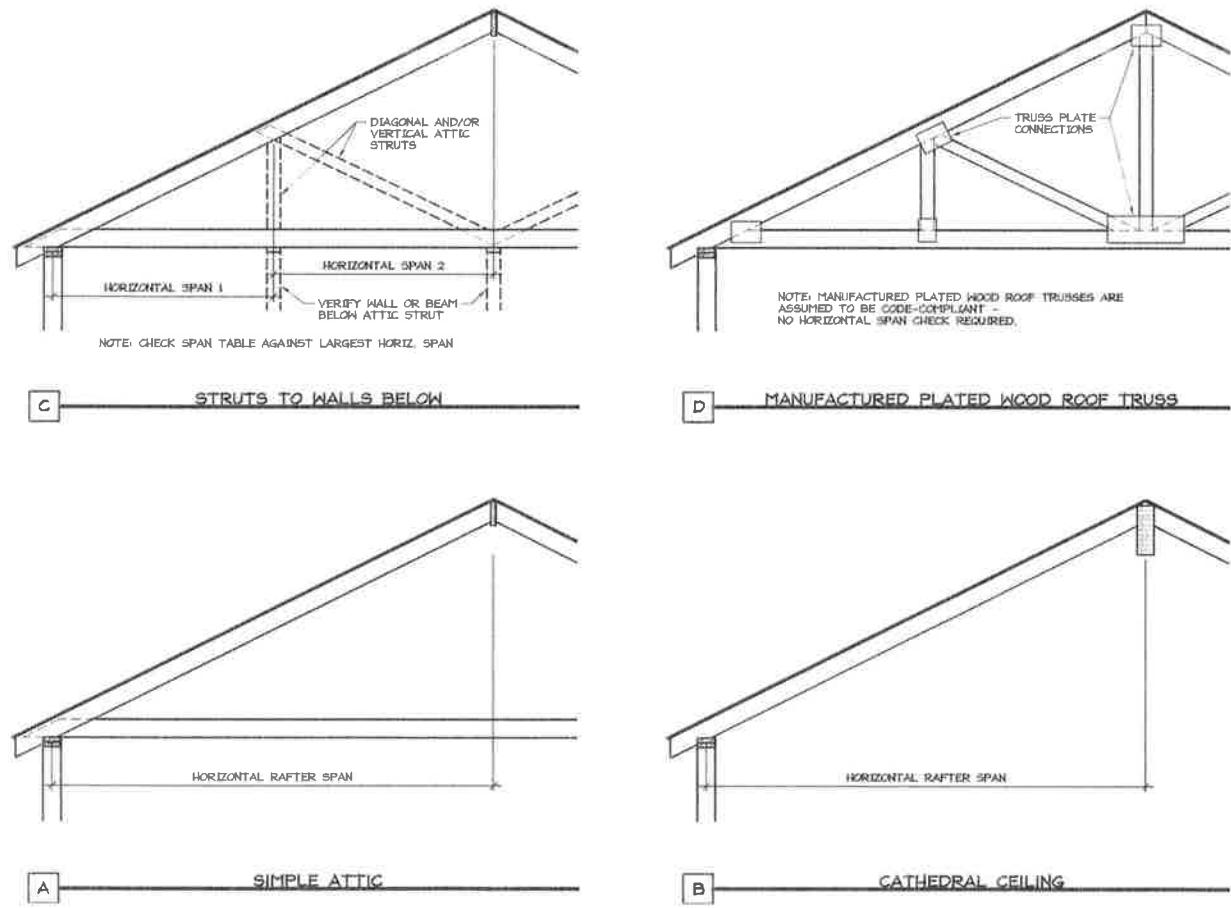

Figure 4. Definition of Rafter Horizontal Span.
5) Measured rafter horizontal span (see Figure 4): _____ ' - _____ "ft-in
1. See Figure 4 for definition of roof rafter maximum horizontal span.
(Attach Figure 4 ONLY if the Optional Additional Rafter Span Check is added to the list of Structural Criteria)